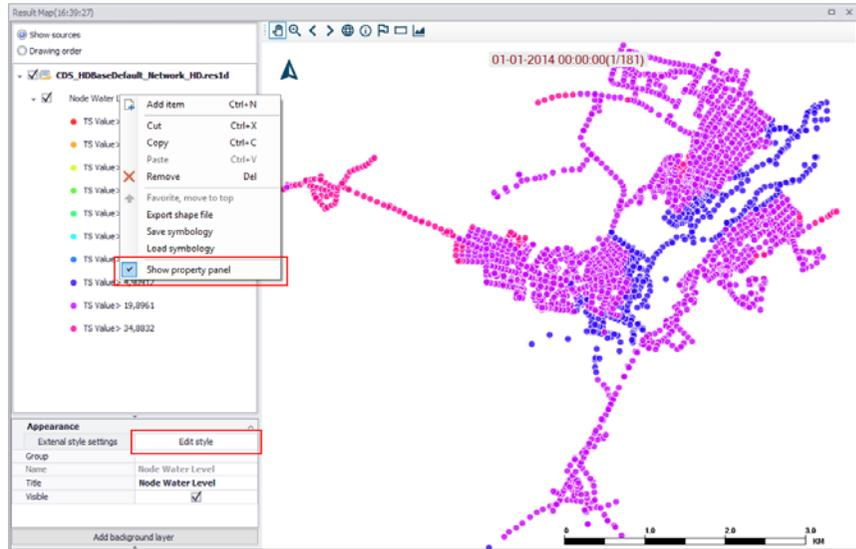

Figure 19.17 Edit a result layer symbology and label via the 'Edit style' option
- On the left panel of the result plot, right-click on the result item layer and choose 'Show property panel' from the local context menu. The property panel appears at the bottom left corner of the window (Figure 19.17).
- Expand the 'Appearance' property line in the property panel by clicking on the dropdown icon. The 'Edit style' option is then displayed below the line (Figure 19.17).